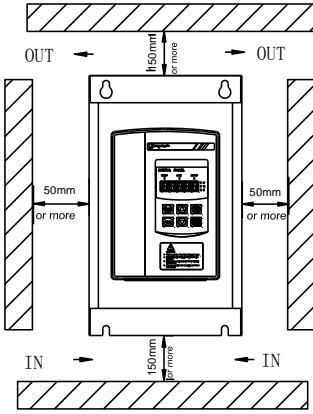
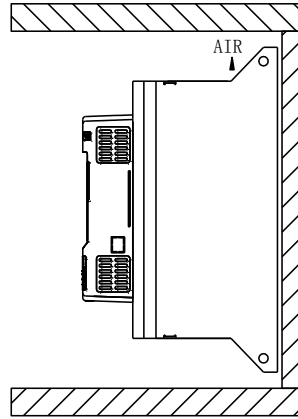

Figure 3-1
Figure 3-2
- Installation direction and distance: in order to ensure that the soft starter in use with good ventilation and cooling conditions, soft starter should be installed vertically, and in the equipment with sufficient heat dissipation space all round, as shown in Figure 3.2 and Figure 3.1, in the photo, to allow the minimum distance.